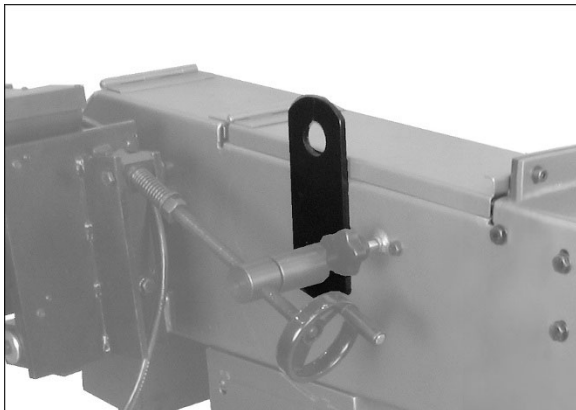

Figure 5-1
See Figure 5-1
4. Lift machine using hook or straps through lifting plate (Figure 5-1). Make sure lifting equipment capacity *exceeds* maximum weight of Notcher.